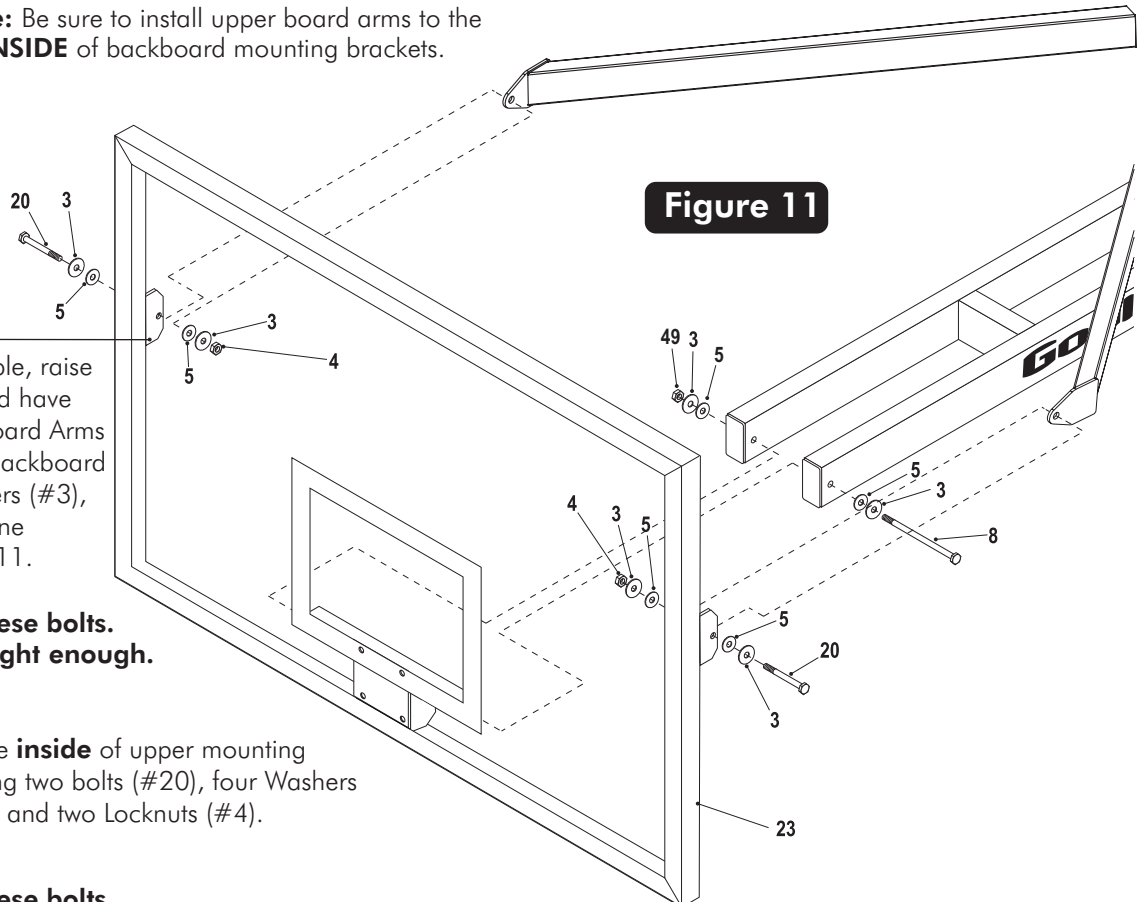

Figure 11
16. With at least four capable people, raise the backboard assembly up and have the fifth person attach Lower Board Arms to the Rim Support (# 21) on backboard using one bolt (#8), two washers (#3), two Plastic washers (#5) and one thin locknut (#49). See Figure 11.
17. Attach Upper Board Arms to the **inside** of upper mounting brackets on the backboard using two bolts (#20), four Washers (#3), four Plastic Washers (#5) and two Locknuts (#4). See Figure 11 and Detail A2.